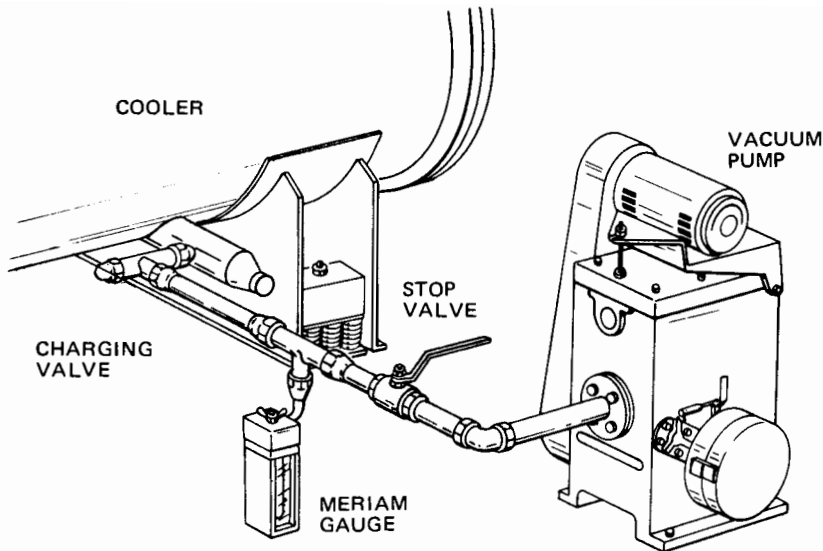

FIG. 21—EVACUATING THE SYSTEM
1. Connect a high capacity vacuum pump, with indicator, to the system charging valve as shown in Fig. 21 and start the pump. (See VACUUM DEHYDRATION, page 32.)
5. Close the unit charging valve and the stop valve between the vacuum indicator and the vacuum pump. (See Fig. 21.) Then, disconnect the vacuum pump leaving the vacuum indicator in place.